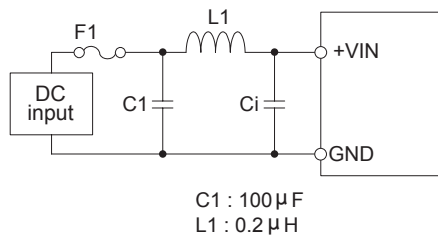

Fig.3.1 Example of Recommended external input filter
(3) Recommendation for noise-filter
■ Install an external input filter as shown in Fig.3.1 in order to reduce conducted noise. C_{in} is shown in Table 3.2